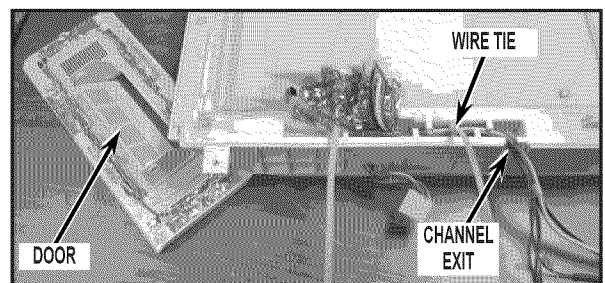

FIGURE 19
26. Route heater wires through channel and out channel exit on top of ice box so that the fascia heater connector exits the ice box at the same location as the other wires. Attach wire tie to secure all wires to harness in channel, clip off excess wire tie and re-secure permagum. See *Figure 19*.